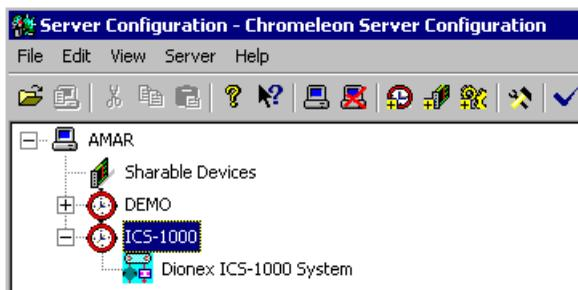

Figure 13. Server Configuration with ICS-1000 Timebase
1. In the Server Configuration program, click the + icon next to the server name to expand the folder. The timebase you created is displayed (see Figure 13).